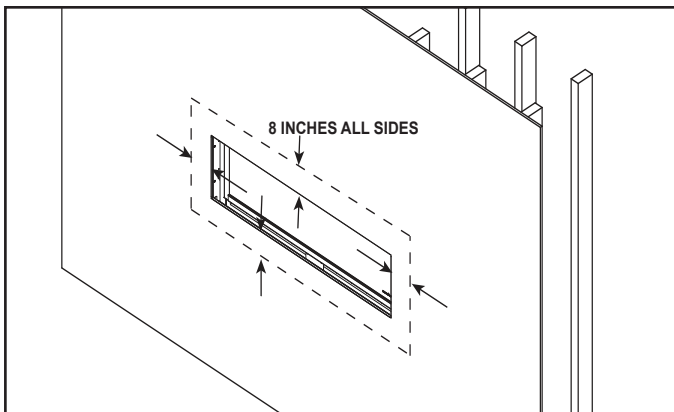
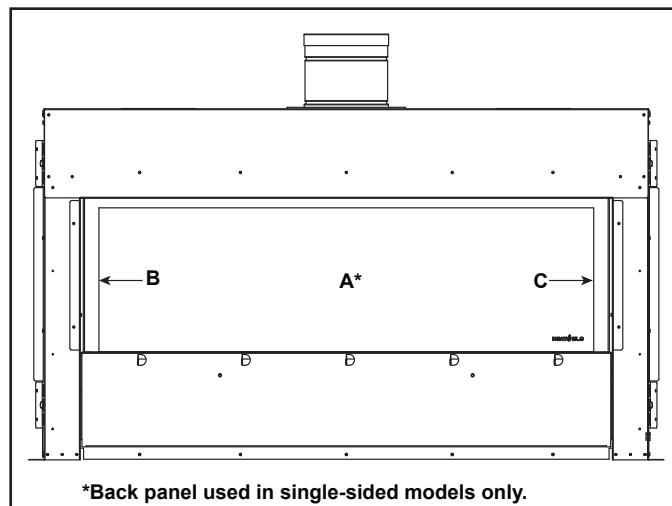
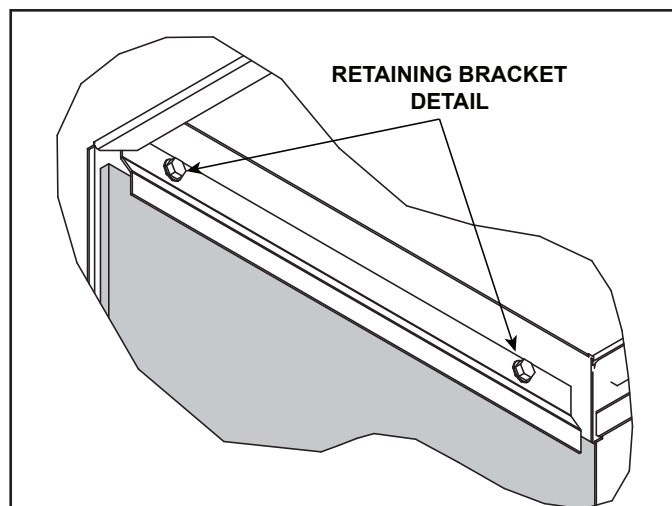

Figure 10.6 Feather Joint Compound Evenly
Figure 10.7 Placement of Panels
Figure 10.8 Retaining Bracket Installation
3. Apply the drywall joint compound. When applying the joint compound, feather it evenly around the opening throughout the zone shown in Figure 10.6. A smooth, even surface, covering a wide area of the wall is desired for best results. For best results, follow the tips below.
Set back glass panel, in location A in Figure 10.6 into firebox. Back panel will sit on the heads of the screws holding the media tray in place. Set back glass panel against the back wall of the firebox with the smooth side of the glass facing outward. Place retaining bracket over panel so holes in the bracket are against the firebox back. Use two self-drilling screws to secure to the firebox back. Ensure glass panel is stationary. See Figure 10.8.
Set left side glass panel, in location B in Figure 10.7, into firebox with the smooth side facing outward. Place retaining bracket over panel so holes in the bracket are against the firebox side. Use two self-drilling screws to secure to the firebox side. See Figure 10.7. Ensure glass panel is stationary.
Set left side glass panel, labeled B in Figure 10.7, into firebox with the smooth side facing outward. Place retaining bracket over glass panel so holes in the bracket are against the firebox side. Use two self-drilling screws to secure the bracket to the firebox side. See Figure 10.8. Repeat for right side panel.